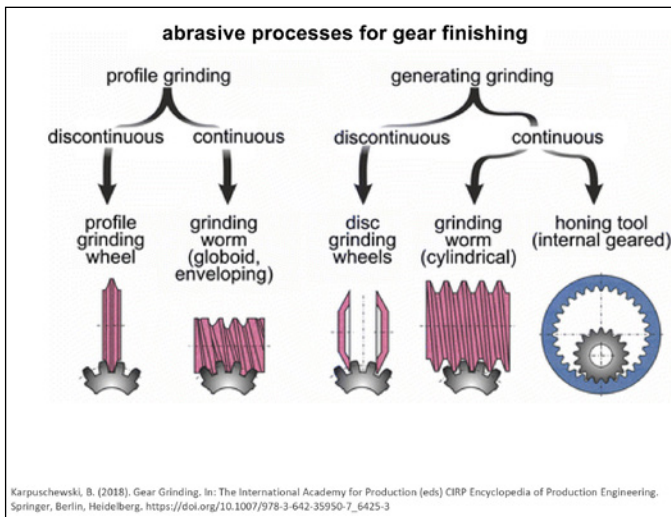

Figure 2
- Within each profile and generating grinding finishing process there are continuous and discontinuous distinctions (see Figure 2).